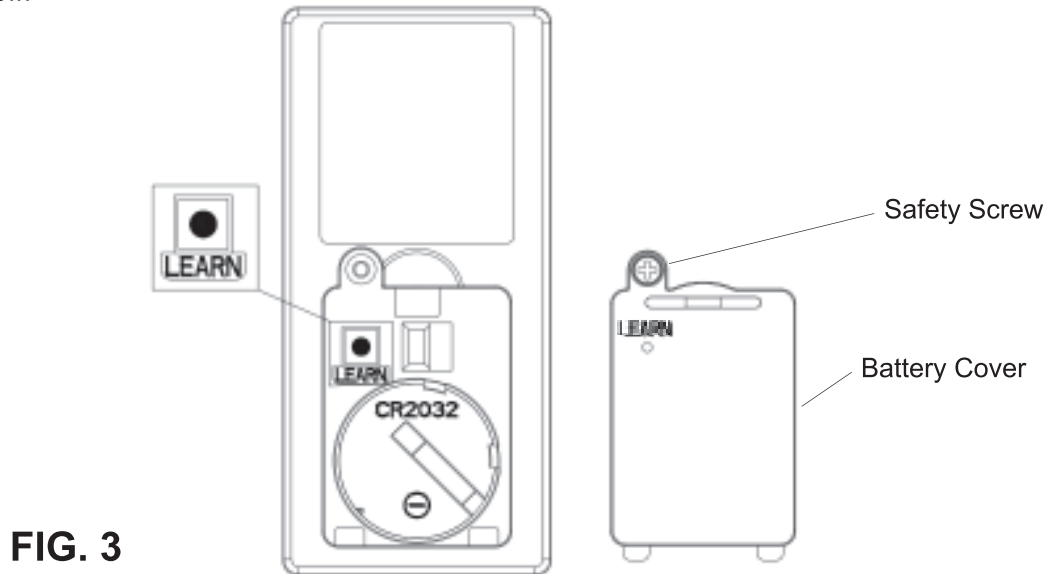

FIG. 3
Step 1. Loosen the safety screw and remove the battery cover from the back of the transmitter. (Fig. 3)
Step 3. Set the existing **OFF/ON** wall switch for the fan to the "**ON**" position, press and hold the **LEARN** button (on the back of the transmitter) for 3 seconds to enter the learning function. Refer to (Fig. 3) Fan will turn on 10 seconds then off and down light (if installed) will blink three times. This confirms that the SMART SYNC setting is active and ok.
NOTE: To access the **LEARN** button on the back of the transmitter, loosen the safety screw and remove the battery cover from the back of the transmitter. **(Fig. 3)** Once deprogramming is successful, reinstall the battery cover to the back of the transmitter and tighten the safety screw.